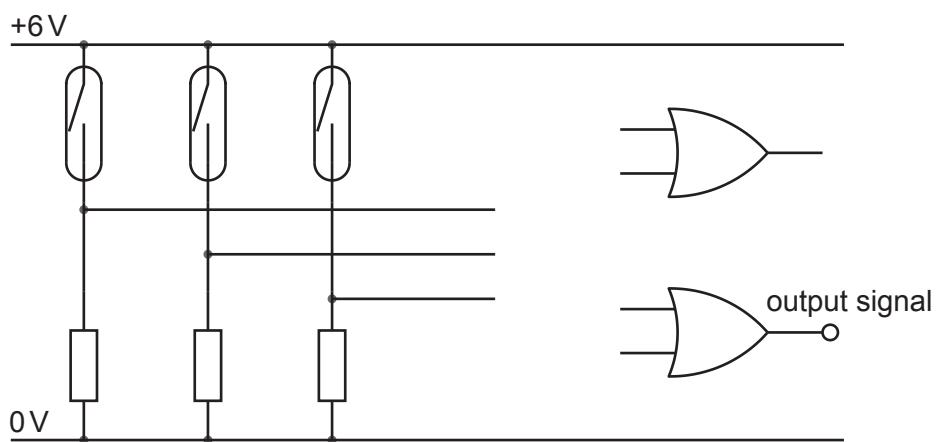

Fig. 12.4
- (e) Fig. 12.4 shows an incomplete intruder alarm circuit. The circuit uses three reed switches as inputs to a logic system and a latched relay as the output to the system.
- (i) Add connections from the reed switches to the logic gate inputs in Fig. 12.4 that will cause the output signal to go high when any one of the reed switches is operated. [2]